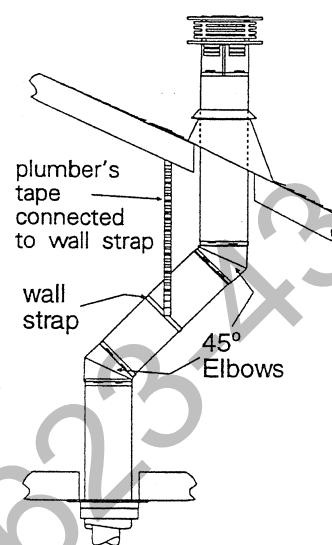

Fig. 7
2) Set the gas appliance in its desired location. Drop a plum bob down from the ceiling to the position of the appliance flue exit, and mark the location where the vent will penetrate the ceiling. Drill a small hole at this point. Next, drop a plumb bob from the roof to the hole previously drilled in the ceiling, and mark the spot where the vent will penetrate the roof. Determine if ceiling joists, roof rafters or other framing will obstruct the venting system. You may wish to relocate the appliance or to offset, as shown in Fig. 7 to avoid cutting load bearing members.
NOTE: If an offset is necessary in the attic to avoid obstructions, it is important to support the vent pipe every 3 feet, to avoid excessive stress on the elbows, and possible separation. Wall Straps are available for this purpose. Fig. 7.